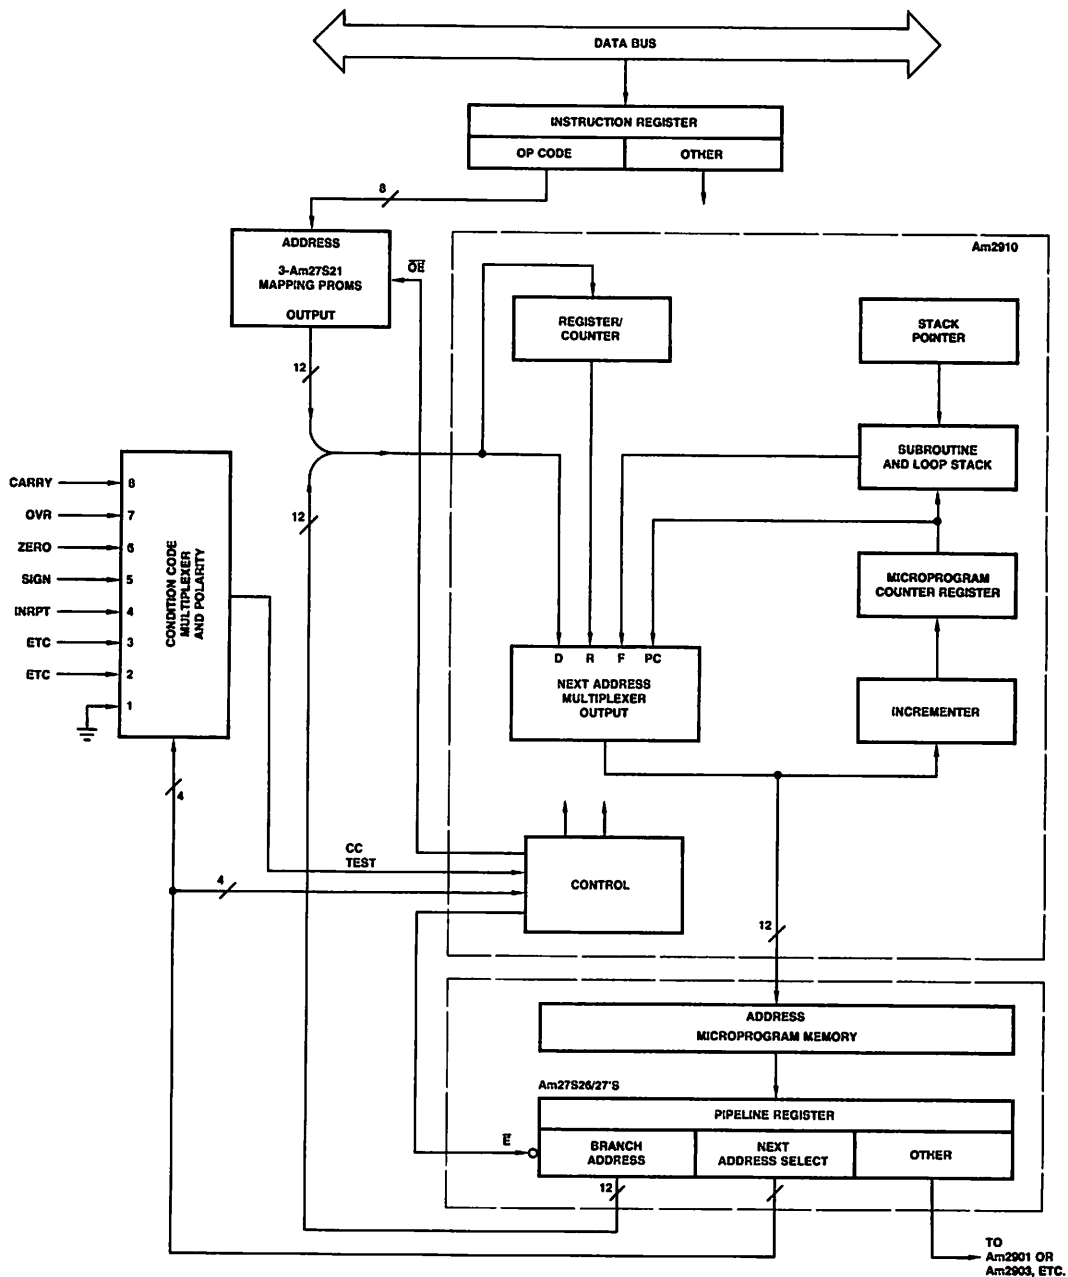

Fig. 1. A Typical Computer Control Unit using the Am27S26/27.
The microprogram memory control unit block diagram of Figure 1 is easily implemented using the Am2910 and the Am27S26/27 registered PROM's. This architecture provides a structured state machine design capable of executing many highly sophisticated next address control instructions. The Am2910 contains a next address multiplexer that provides four different inputs from which the address of the next microinstruction can be selected. These are the direct input (D), the register input (R), the program counter (PC), and the file (F). The starting address decoder (mapping PROM) output and the Am27S26/27's pipeline register output are connected together at the D input to the Am2910 and are operated in the three-state mode.
The architecture of Figure 1 shows an instruction register capable of being loaded with a machine instruction word from the data bus. The op code portion of the instruction is decoded using a mapping PROM to arrive at a starting address for the microinstruction sequence required to execute the machine instruction. When the microprogram memory address is to be the first microinstruction of the machine instruction sequence, the Am2910 next address control selects the multiplexer D input and enables the three-state output from the mapping PROM. When the current microinstruction being executed is selecting the next microinstruction address as a JUMP function, the JUMP address will be available at the multiplexer D input. This is accomplished by having the Am2910 select the next address multiplexer D input and also enabling the three-state output of the pipeline register branch address field. The register enable input to the Am2910 can be grounded so that this register will load the value at the Am2910 D input. The value at D is clocked into the Am2910's register (R) at the end of the current microcycle, which makes the D value of this microcycle available as the R value of the next